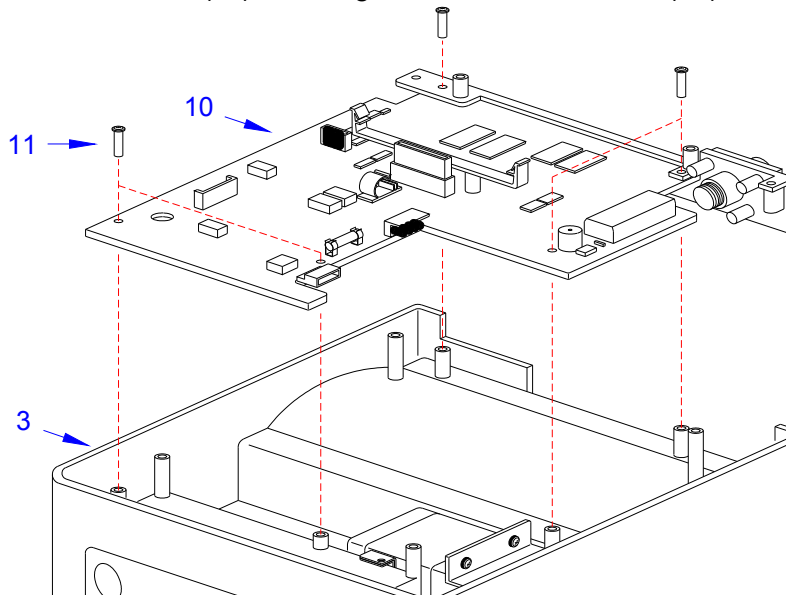

Figure 4-7c, Detachment of Relay Board signal cable from Main Board
- 8 Remove the base cover from the housing cover to access the main board (10) (Figure 4-7c).
- 9 Remove the five screws (11) securing the main circuit board (10) to the printer (3).